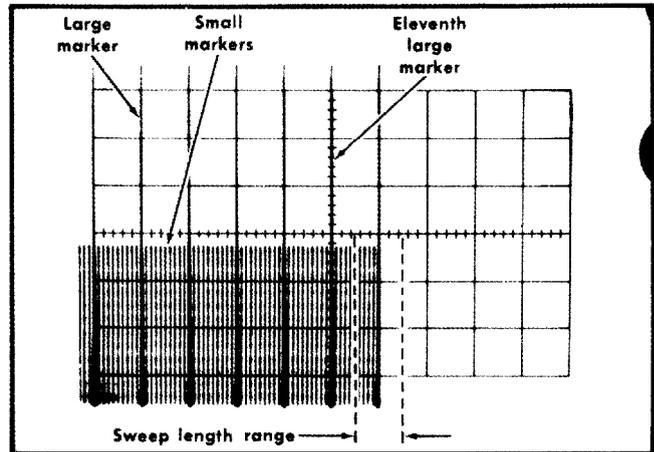

Fig. 6-43. Typical CRT display when checking A and B sweep length.
- b. Move the eleventh large marker to the center vertical line with the horizontal POSITION control (see Fig. 6-43).
c. CHECK-B Sweep length must be between 10.5 and 11.5 divisions, as shown by 0.5 to 1.5 divisions of display to the right of the center vertical line (see Fig. 6-43). Large markers indicate divisions and small markers indicate 0.1 division.
- c. Move the eleventh marker to the center vertical line with the horizontal POSITION control (see Fig. 6-43).